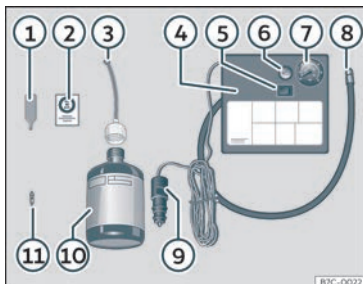

Fig. 31 Standard representation: anti-puncture kit contents.
The anti-puncture kit is located underneath the floor covering in the luggage compartment. It includes the following components >>> Fig. 31:
- Unscrew the tyre valve cap and insert. Use the >>> Fig. 31 ① tool to remove the insert. Place it on a clean surface.
- Shake the tyre sealant bottle vigorously >>> Fig. 31 ⑩.
- Screw the inflator tube >>> Fig. 31 ③ into the sealant bottle. The bottle's seal will break automatically.
- Remove the lid from the filling tube >>> Fig. 31 ③ and screw the open end of the tube into the tyre valve.
- Place the insert back into the tyre valve using the tool >>> Fig. 31 ①.
- Screw the compressor tyre inflator tube >>> Fig. 31 ⑧ into the tyre valve.
- Check that the air bleed screw is closed >>> Fig. 31 ⑥.
- Insert the connector >>> Fig. 31 ⑨ into the vehicle's 12-volt socket >>> page 142.
- Turn the air compressor on with the ON/OFF switch >>> Fig. 31 ⑤.
- Attach the sticker >>> **Fig. 31** (2) to the instrument cluster, within the driver's visual field.
Screw the inflator tube >>> **Fig. 31** (5) again and check the pressure on the gauge (6).